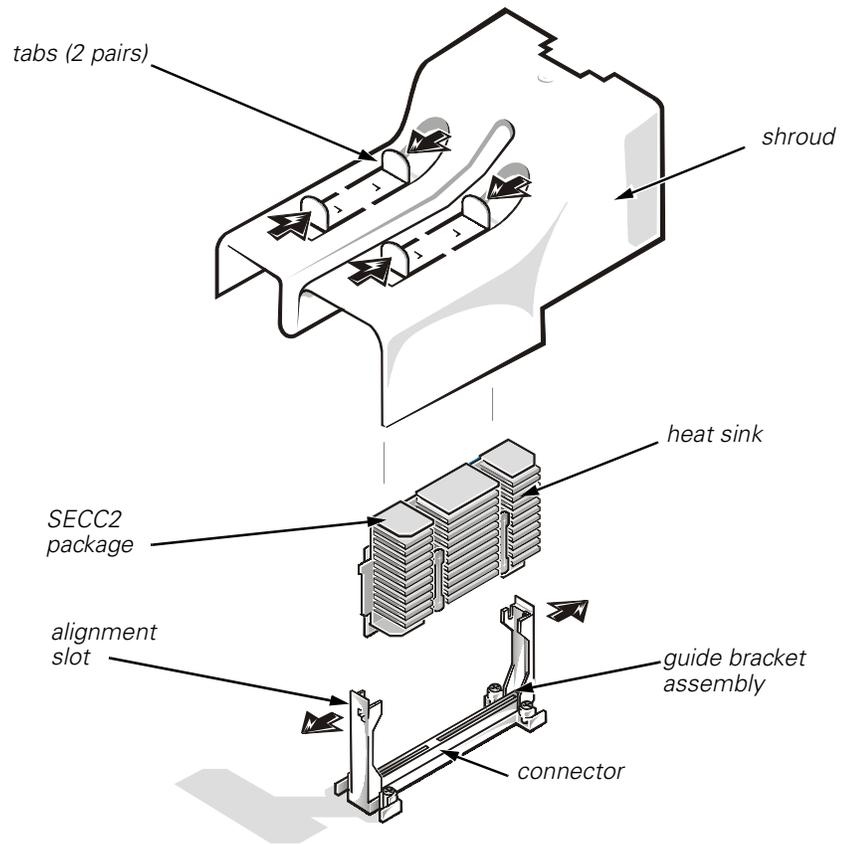

Figure 1-1. SECC2 Package Removal and Insertion
3. Remove the airflow shroud by squeezing both pairs of tabs on the top of the shroud and then lifting it out of the chassis, as shown in Figure 1-1.
Gently push out (as indicated by the arrows in Figure 1-1) on the top of the guide bracket to separate the brackets as you simultaneously lift up on the SECC2 package.
- b. Press the SECC2 package firmly into its connector until it is fully seated and secured in the guide bracket (see Figure 1-1).